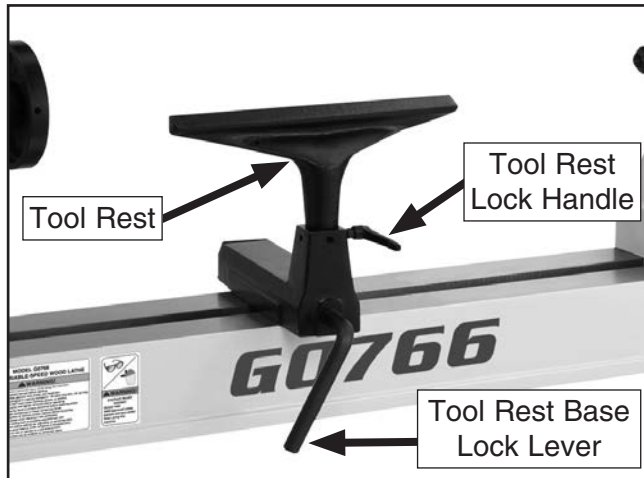

Figure 18. Tool rest controls.
1. Loosen tool rest base lock lever and move tool rest assembly to desired position on lathe bed, as shown in **Figure 18**.
1. Loosen tool rest lock handle (see **Figure 18**).